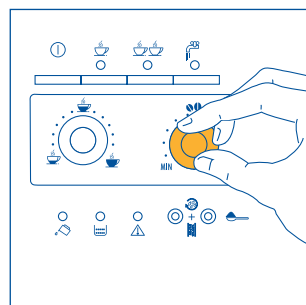
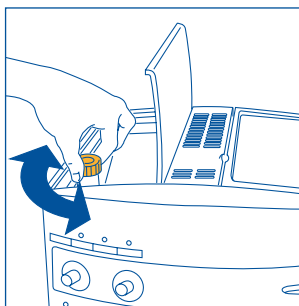

Fig.7
Fig. 17
- 2) Adjust the coffee flavor dial (Fig. 7) to set the desired taste of the coffee. Turning the knob clockwise increases the quantity of coffee beans that the machine will grind, and thus makes the taste of the coffee stronger. When using the machine for the first time, the correct position of the knob can be found by trial and error. Make sure not to turn it too far clockwise, otherwise the coffee will be delivered too slowly (in drips), in particular when preparing two cups of coffee.
NOTE 1: If the coffee is delivered a drop at a time or not at all, turn the grinding coarseness regulator (fig. 17) one click clockwise (see section 6). Turn a click at a time until the coffee is delivered satisfactorily.
NOTE 2: If the coffee is delivered too fast and is not creamy enough, turn the coffee flavor dial (fig. 7) clockwise. Proceed by trial and error to find the correct position of the dial. Make sure not to turn the dial too far clockwise, otherwise the delivery may become too slow (in drips), in particular when making two cups of coffee. If, after several coffees, the cream is still not satisfactory, also turn the grinding coarseness regulator (Fig. 17) one click counter-clockwise (see section 6).
To resolve this problem, re-set the grinding coarseness by adjusting the regulator (Fig. 17) one click counter-clockwise (as described in chap. 6).
Nonetheless, after having made the first coffees, if delivery is too fast or too slow (in drips), the grinding coarseness regulator can be adjusted (Fig. 17). Turning one click (one number) clockwise achieves faster delivery of the coffee (without drips).